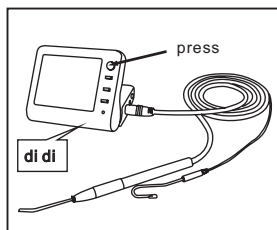

Fig.32
- 2) Connect the test handle and switch on the instrument, two tones audio signal are emitted when the unit is turned on.(Fig.32)